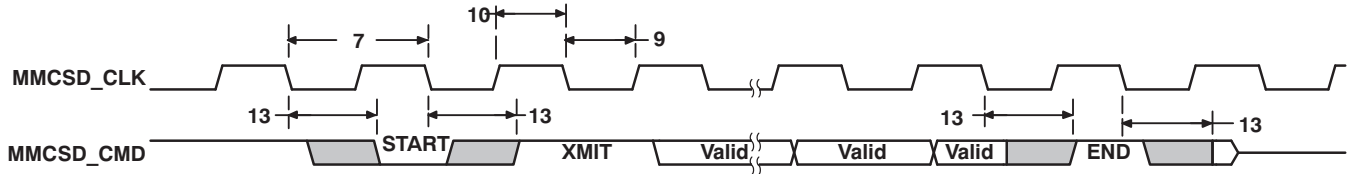
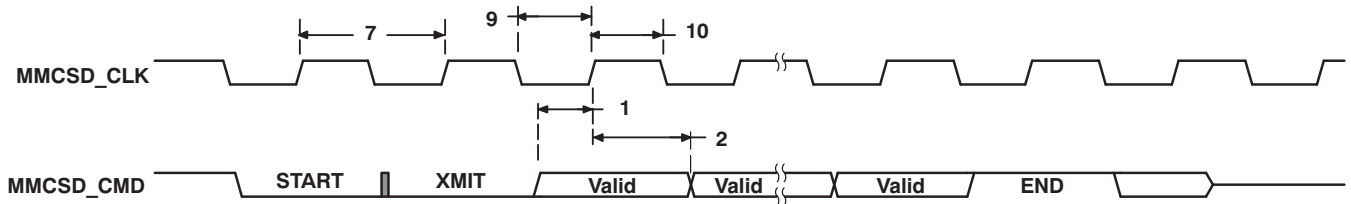
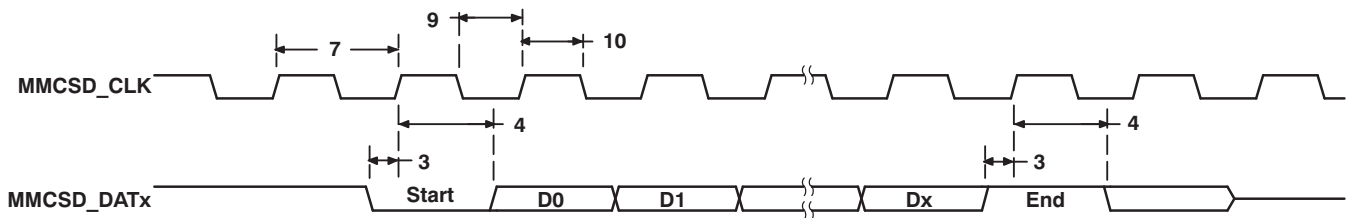

Figure 5-27. MMC/SD Host Command Timing
Figure 5-28. MMC/SD Card Response Timing
Figure 5-30. MMC/SD Host Read and Card CRC Status Timing
(see Figure 5-28 and Figure 5-30)
(1) Parameters are characterized from -40°C to 105°C unless otherwise noted.
**Table 5-43. Switching Characteristics for MMC/SD(1)** (see Figure 5-27 through Figure 5-30)